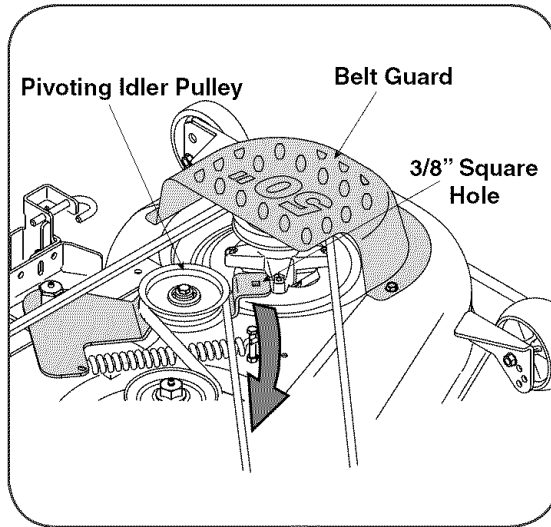

Figure 18
3. Remove the PTO belt from around the tractor's engine pulley and idler pulley(s). Refer to Figure 18 on page 24.
b. Insert a 3/8"-drive ratchet wrench (set to tighten) into the square hole found in the idler bracket on the left side of the deck's surface. See Figure 18.